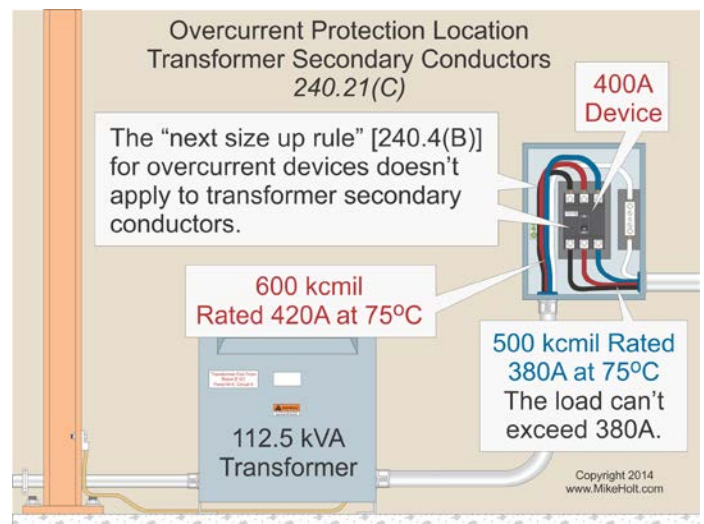

Figure 240–28
The permission of the “next size up” protection rule when the conductor ampacity doesn't correspond with the standard size overcurrent protection device of 240.4(B) doesn't apply to transformer secondary conductors. **Figure 240–28**
Question: What's the minimum size secondary conductor required for a 2-wire, 480V to 120V transformer rated 1.50 kVA with 60°C terminals? **Figure 240–29**